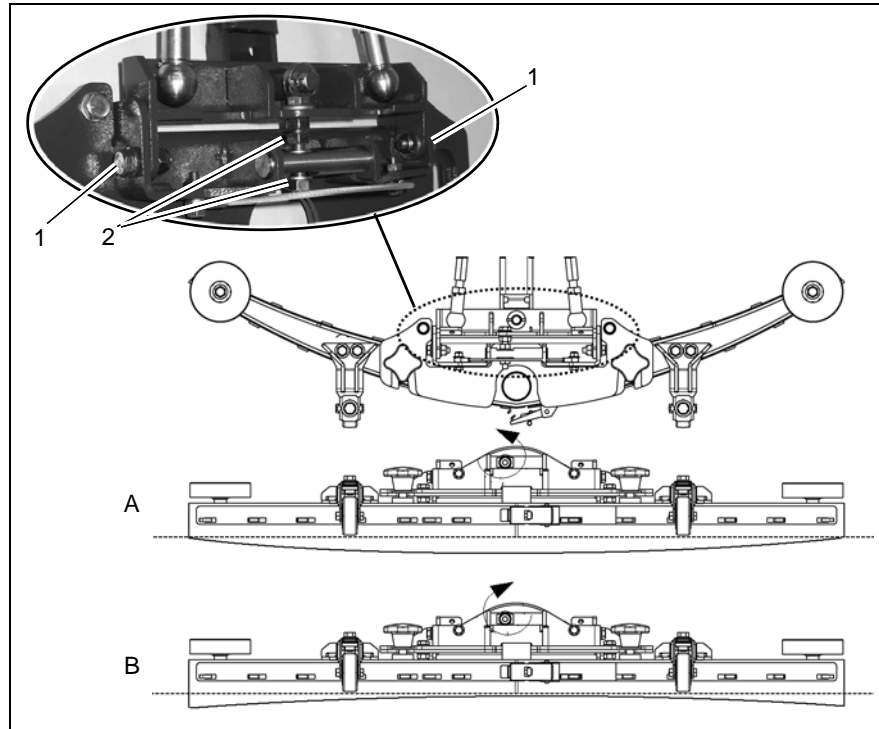

Fig.19
2. Loosen the pivot bolts (Fig. 19/1) and adjust the squeegee using the adjusting nuts (Fig. 19/2) so that the ends of the squeegee blades contact the floor.